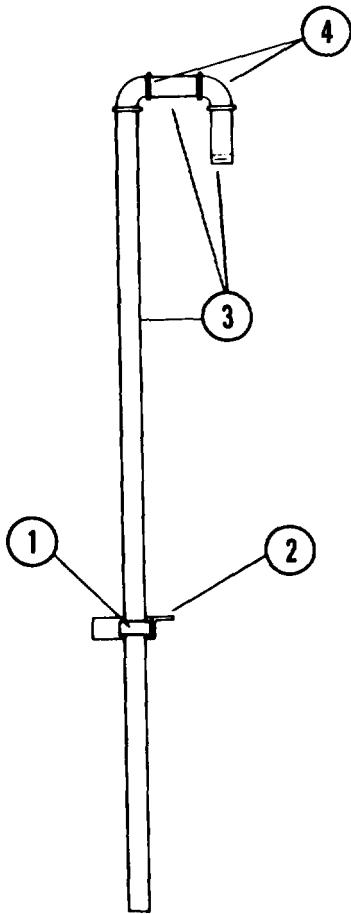

Figure 25. VENT PIPE ASSEMBLY
- b. Removal. Refer to Fig. 25 and remove vent pipe assembly.